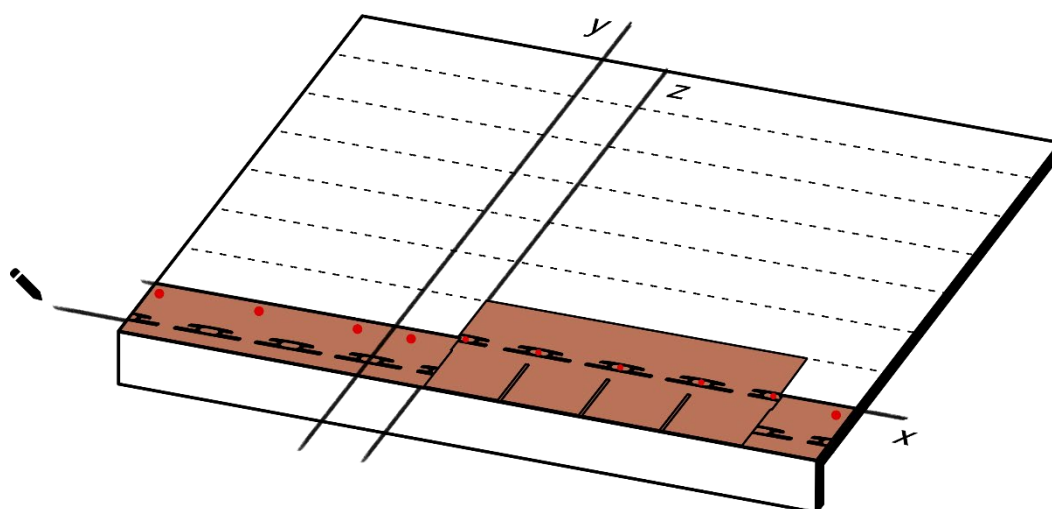
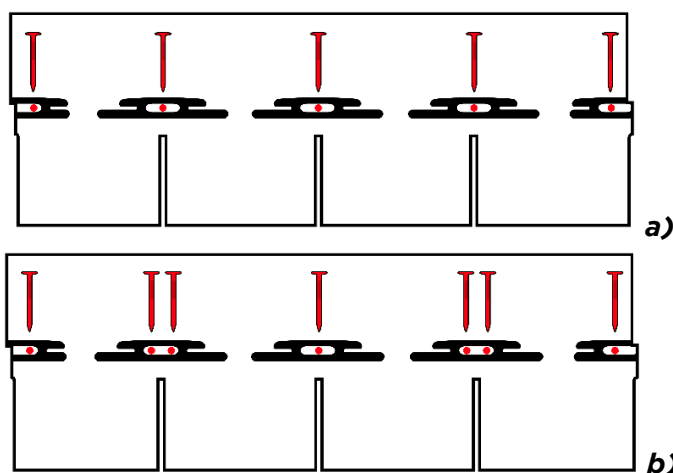

Fig. 7 - Shingles installation
Fig. 8 - Shingle nailing a) slopes <60°; b) slopes >60°
- Apply over the membrane/underlayer a bead of bituminous adhesive Bitustick close to the gutter line - Fig. 7;
- Proceed with the installation of the first row of shingles: align the lateral edge of the first shingle on the vertical **z** and the upper edge on the horizontal 14,5 cm from **x** - Fig. 7. Nail the shingle to the substrate by placing 5 nails per shingle, in the centre of the self-adhesive points, as per Fig. 8 a). In the event of pitched slopes between 60° and 85°, place 2 additional nails close to the second and fourth nail, for a total of 7 nails per shingle, as per Fig. 8 b). Proceed by placing all the shingles in the first row.